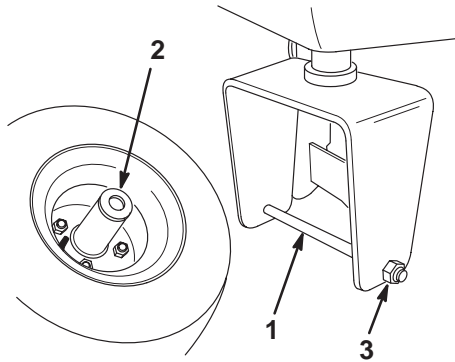

Figure 4
1. Remove the bolt and locknut from the wheel mount holes in the rear castor fork (Fig. 4).
2. Install the rear wheel in the castor fork. Insert the bolt into one of the mounting holes, install a spacer, and slide the bolt through the wheel (Fig. 4).